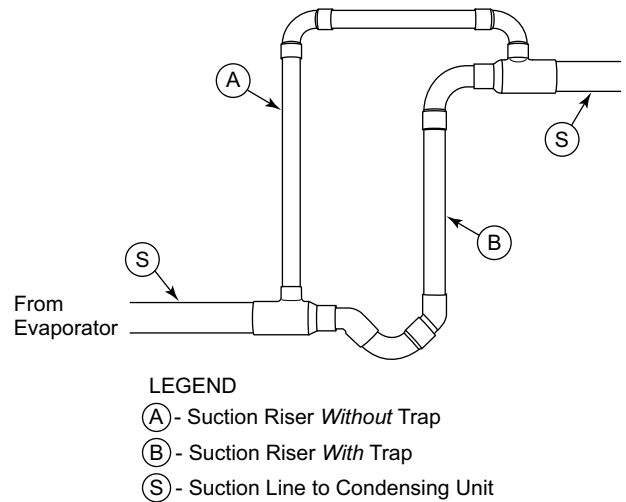

Fig. 6 — Suction Line Piping — Double Riser
- c. See Fig. 6 for double riser diagram.
See Fig. 6 for double riser reference, where tube S is the horizontal line size, tube A is the reduced diameter riser size without bottom trap, and tube B is the parallel riser size with bottom oil trap.